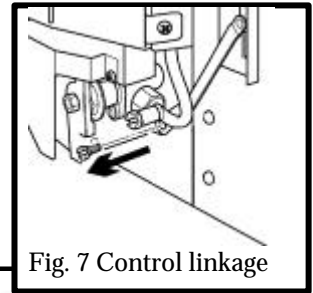

Fig. 7 Control linkage
- b) Check spark gap between electrode wire and thermocouple tip (see figure 7).
6.1 Disconnect the control linkage from the burner unit by removing the shouldered screw which joins the control linking bar to the control pivot unit (see figure 7).